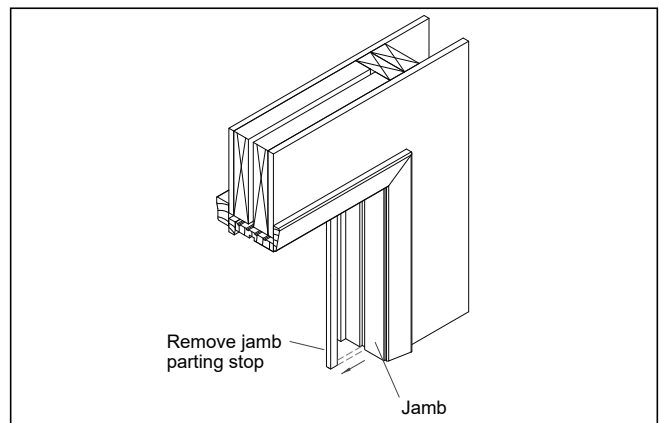

Figure 3
4. Remove part stops from both side jambs. See figure 3.